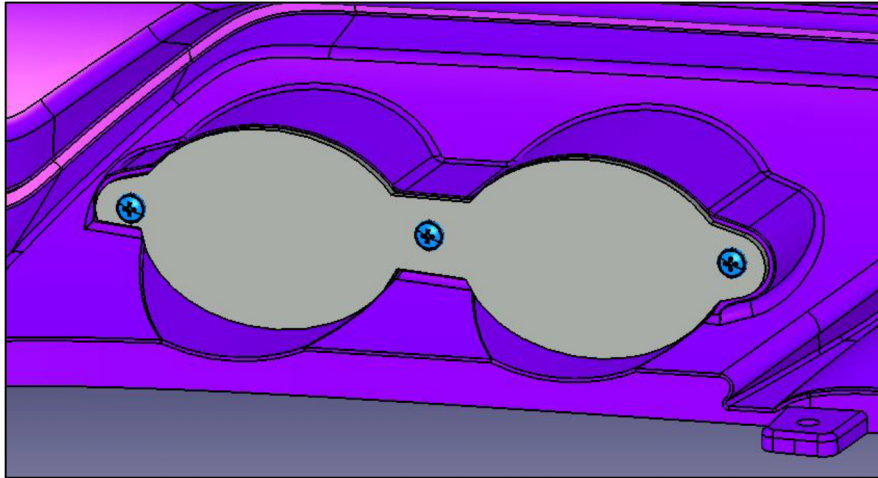

Fig. 6: installed end caps (right side pictured, left side mirror image)
21. Install the supplied implied end pipe end caps into the ABT rear skirt with the supplied 3.9x12mm screws (Fig. 6, torque 2Nm).